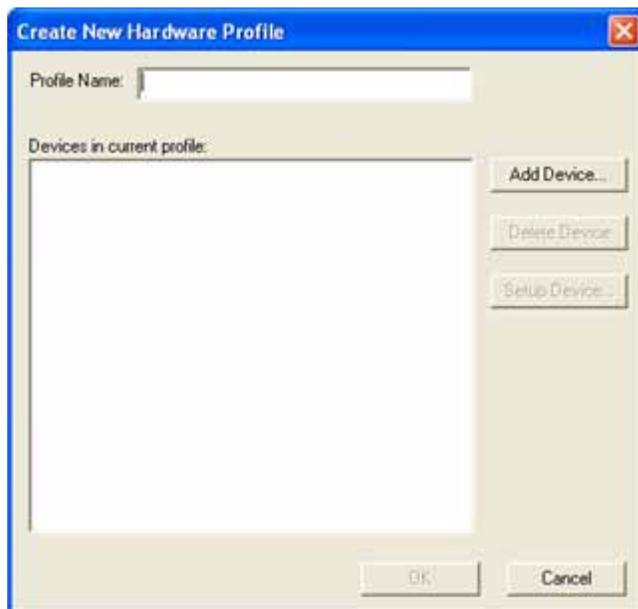

Figure 2-2 Create New Hardware Profile dialog
3. In the **Profile Name** field (Figure 2-2), type a name for the profile. For example, TripleTOF5600+Shimadzu.